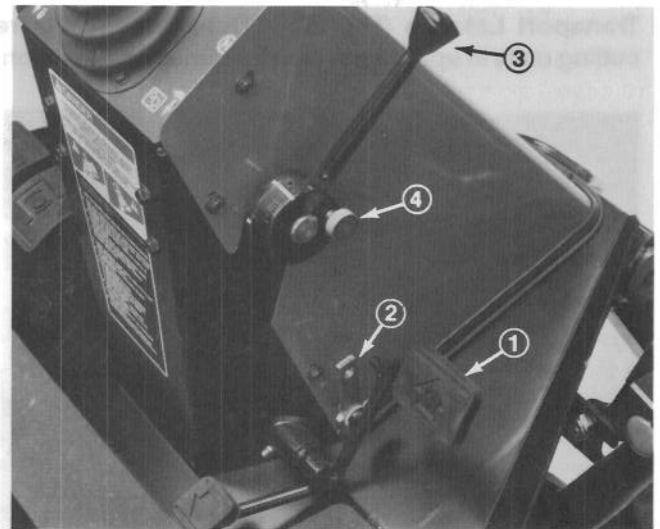

Figure 21
Traction Pedal (Fig. 21) – Controls forward and reverse operation. Depress top of pedal to move forward and bottom to move backward. Ground speed depends on how far pedal is depressed. For no load, maximum ground speed, fully depress pedal while throttle is in FAST. For maximum power under load or when going uphill, keep engine rpm high by having throttle in FAST and traction pedal partially engaged. If engine rpm begins to decrease due to load, gradually reduce traction pedal pressure until engine speed is increased.
Speed Selector (Fig. 21) - Cam lever at side of traction pedal can be rotated to maintain desired speed. Rotating lever forward decreases speed and backward increases speed.
Axle Shift Lever (Fig. 21) – Located on right side of console, lever selects front drive mode. Pull out lockout knob, move lever rearward for mowing operation and forward for transport operation, then release knob to lock selection. Middle position (N) is for towing.